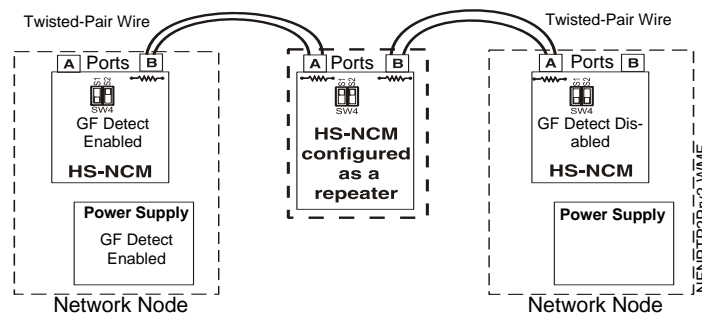
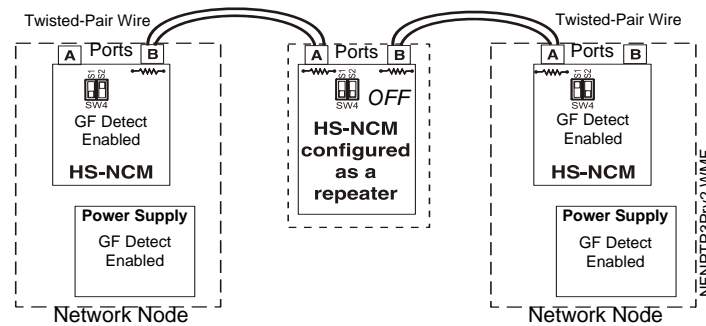

Figure 3.5 Point-to-Point (EXAMPLE 1)
Figure 3.6 Point-to-Point (EXAMPLE 2)
If an HS-NCM configured as a repeater is employed, two ground fault detection schemes are possible within a point-to-point configuration. One or both nodes (refer to Figure 3.5 and Figure 3.6) may provide ground fault detection, depending on the number of repeaters and the setting of the repeater ground fault detect switch (SW4) at each repeater (refer to EXAMPLES 1 and 2).
- EXAMPLE 2:** By setting the ground fault detect switch (SW4) on the repeater to the OFF position, both nodes may provide their own ground fault detection (refer to Figure 3.6). The left node provides ground fault detection up to the repeater, and thus must be one of the ground fault detection nodes defined on page 12. S2 (Port B) is set to the ON position to enable ground fault detection on the left HS-NCM.